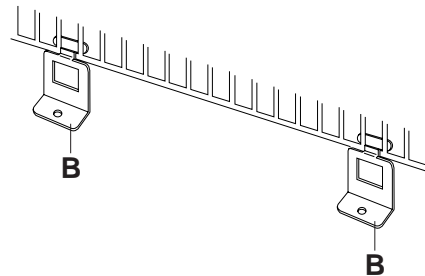

Fig.3
2. Hang the convector on the two brackets fixed to the wall and insert metal brackets "B" into the bottom rear section of the base of the convector as indicated in figure 3, one at each end.